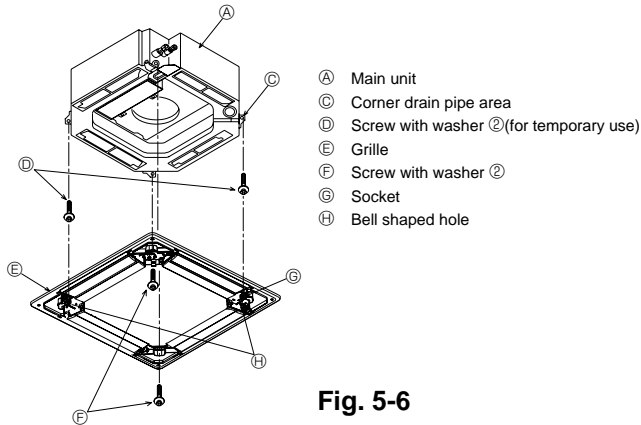
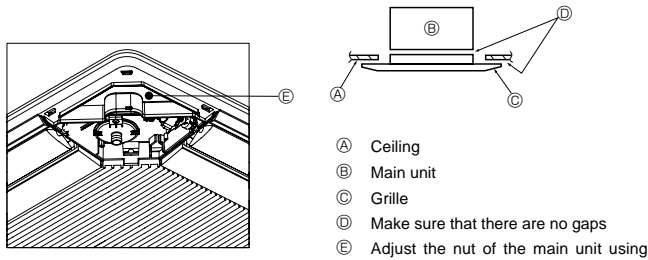

Fig. 5-6
Fig. 5-7
5.4.2. Temporary installation of the grille (Fig. 5-6)
- Temporarily secure the grille using the bell shaped holes by putting the socket of the grille marked ③ on the corner drain pipe area of the main unit.
5.4.3. Securing the grille (Fig. 5-7)